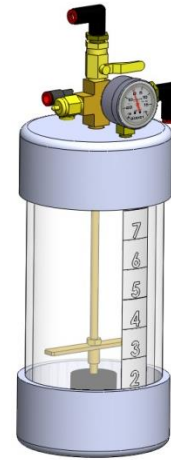

Figure 4: Determine pressures for testing, injecting, and soaking small diameter cables when using charge tanks.
- a. Use the pressure test to prove that the cable system is leak-free before you begin injecting with the charge tank (Figure 4).